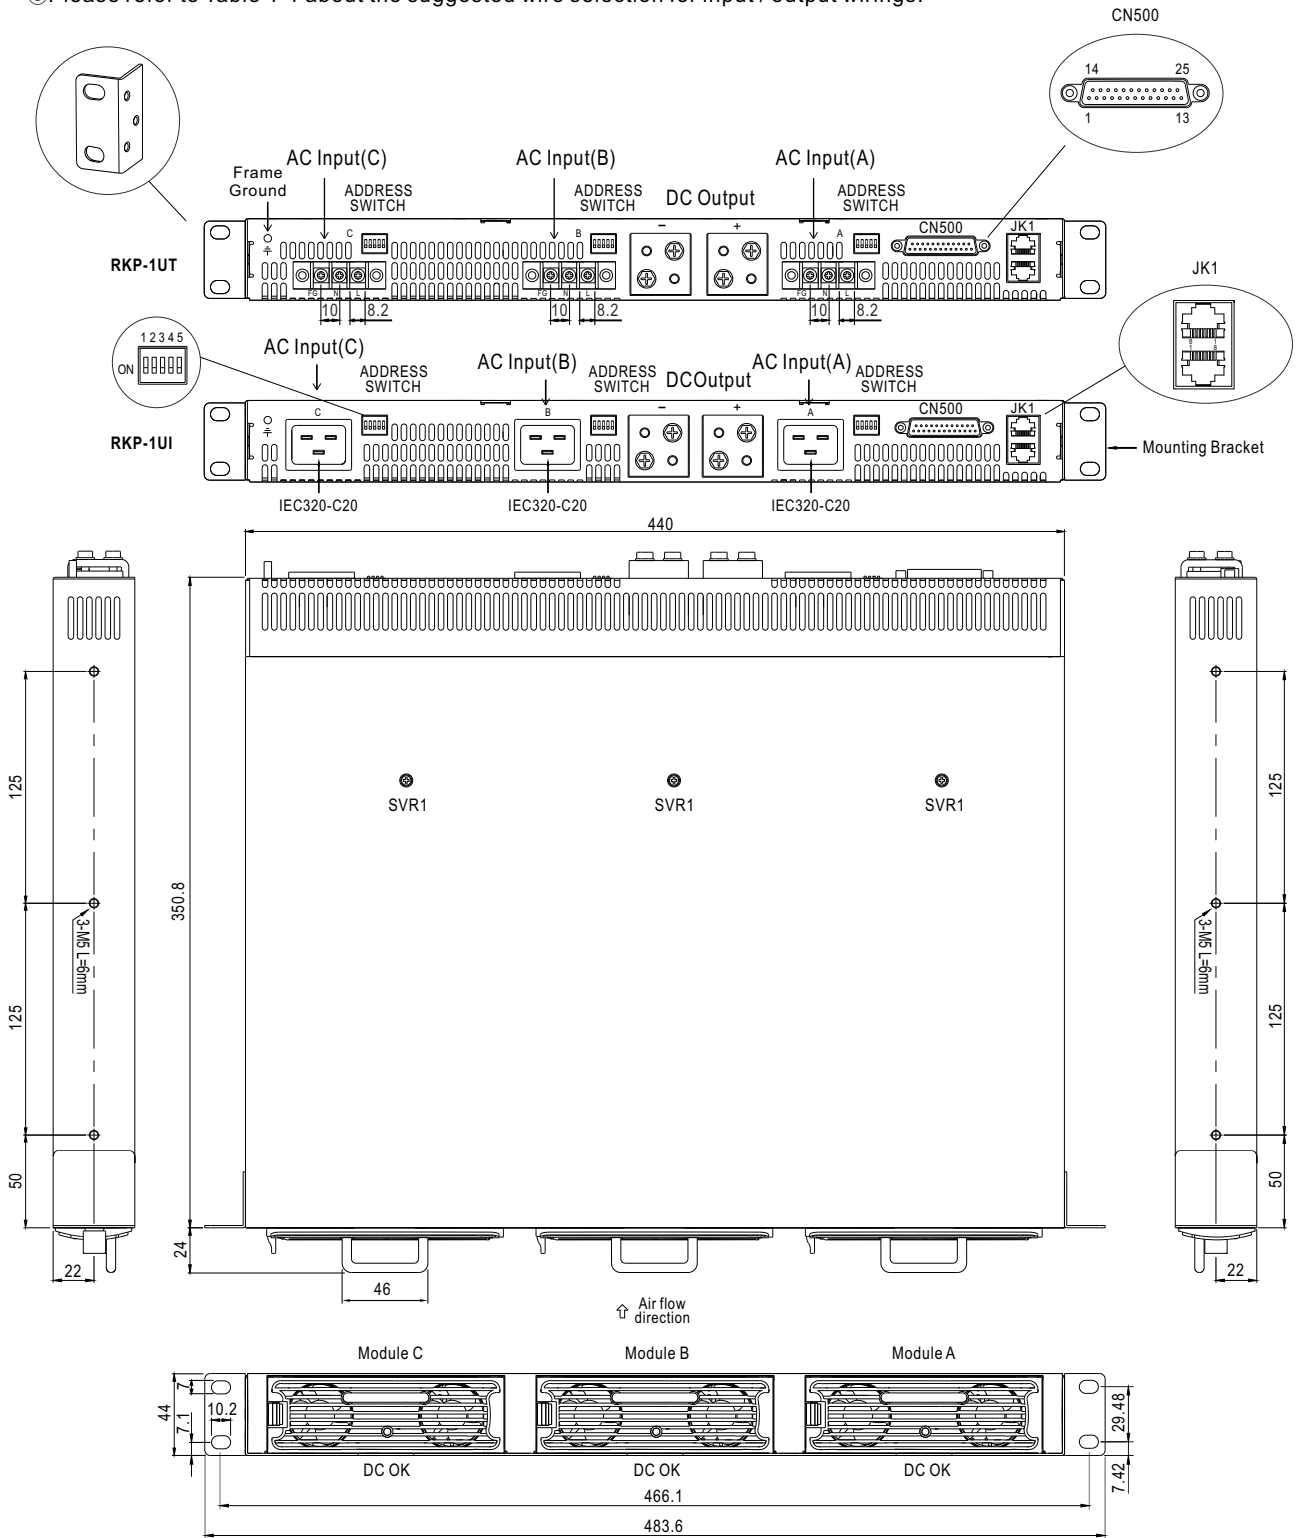

Figure 4-1 System assembly diagram of RCP series
- ⊙ Insert 1~3 pieces of RCP-2000 (with the same output voltage and current) into the RKP-1U□ (refer to Figure 4-1).
- ⊙ Definition of module position: A is on the right, B is in the middle, and C is on the left (refer to Figure 4-1).